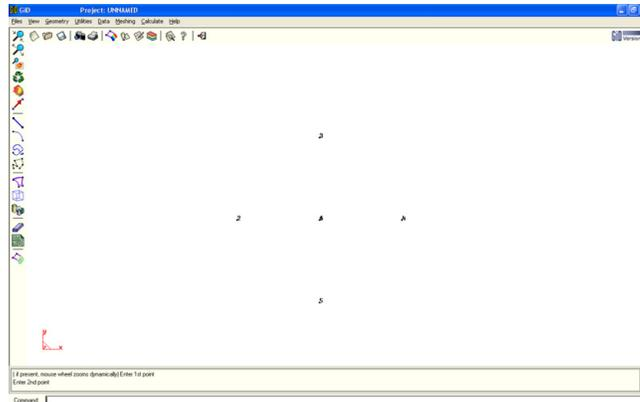

Figure 2: XY view of the 6 points that have been created
6. Adopt an **xy** view using **View|Rotate|Plane XY**. To see better the points you have created, use **View|Zoom|In**, and left-click in the vicinity of the upper-left corner of the model and, while holding the left mouse button down, drag the cursor diagonally over the model, stretching the expanding rectangle visualizing the zoom window, drag past the lower-right corner of the model, and release the left button (Figure 2).